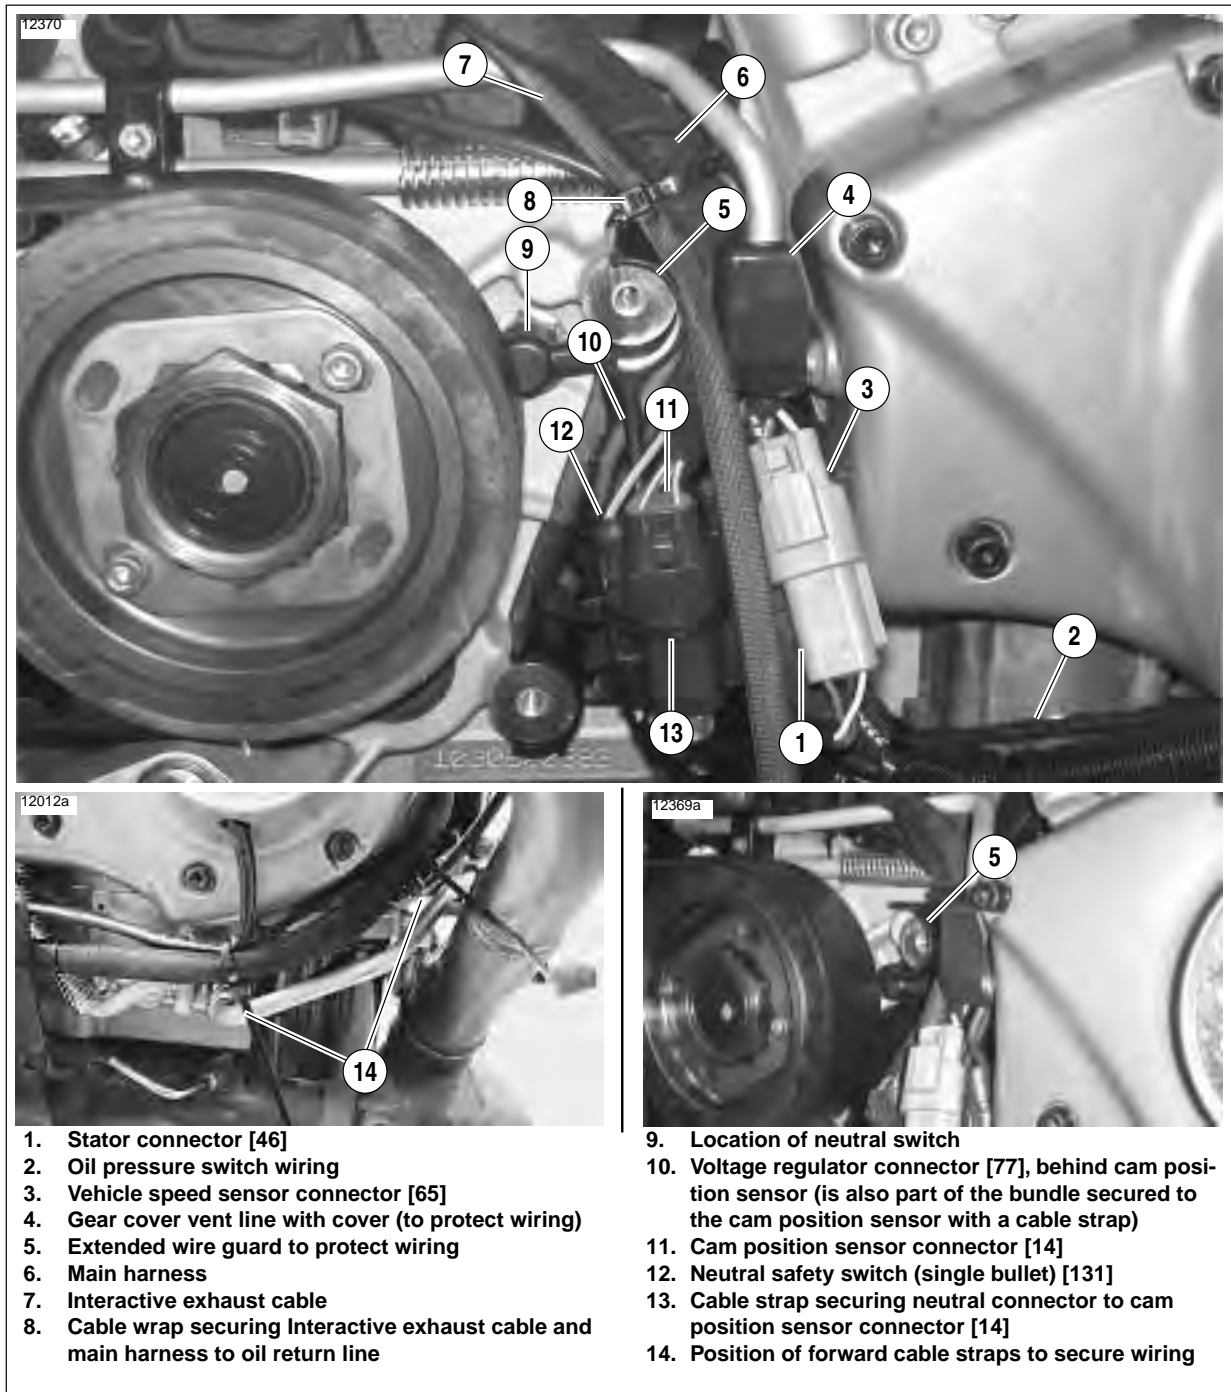

Figure 7-93. Sprocket Cover Wiring and Connections
10. See Figure 7-93. Connect the neutral safety switch (single bullet), and the cam position sensor (3-pin black).
11. See Figure 7-93. Using a cable strap, secure the loop of the neutral safety wire to the cam position connector (13) under the attachment clip on the connector.